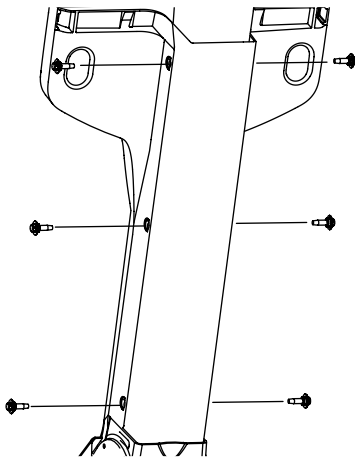

Figure 2-8
8. Secure the console in place with the six shoulder screws. See Figure 2-8. Torque the shoulder screws to 60 in/lbs (+/- 20%).